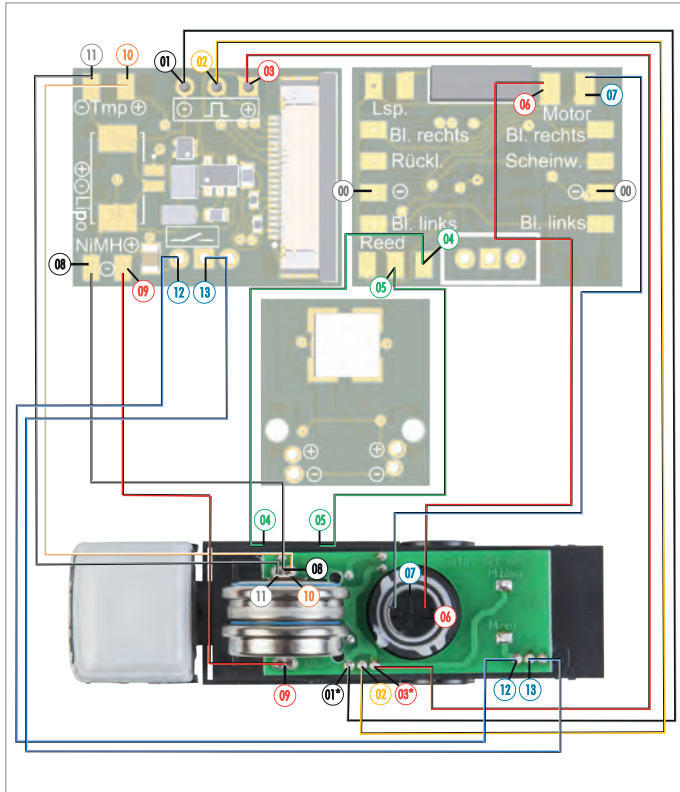

Abb. 41: Wiring diagram, truck model with universal circuit board, batteries plugged in
***NOTE:** Locate the "+" (plus) terminal of the charging port that you previously identified and marked, and connect it to terminal "03" on the conversion board. In the wiring diagram Abb. 41 are "01" and "03" For vehicles, these are merely examples of possible configurations. See also Chapter "Convert a vehicle".